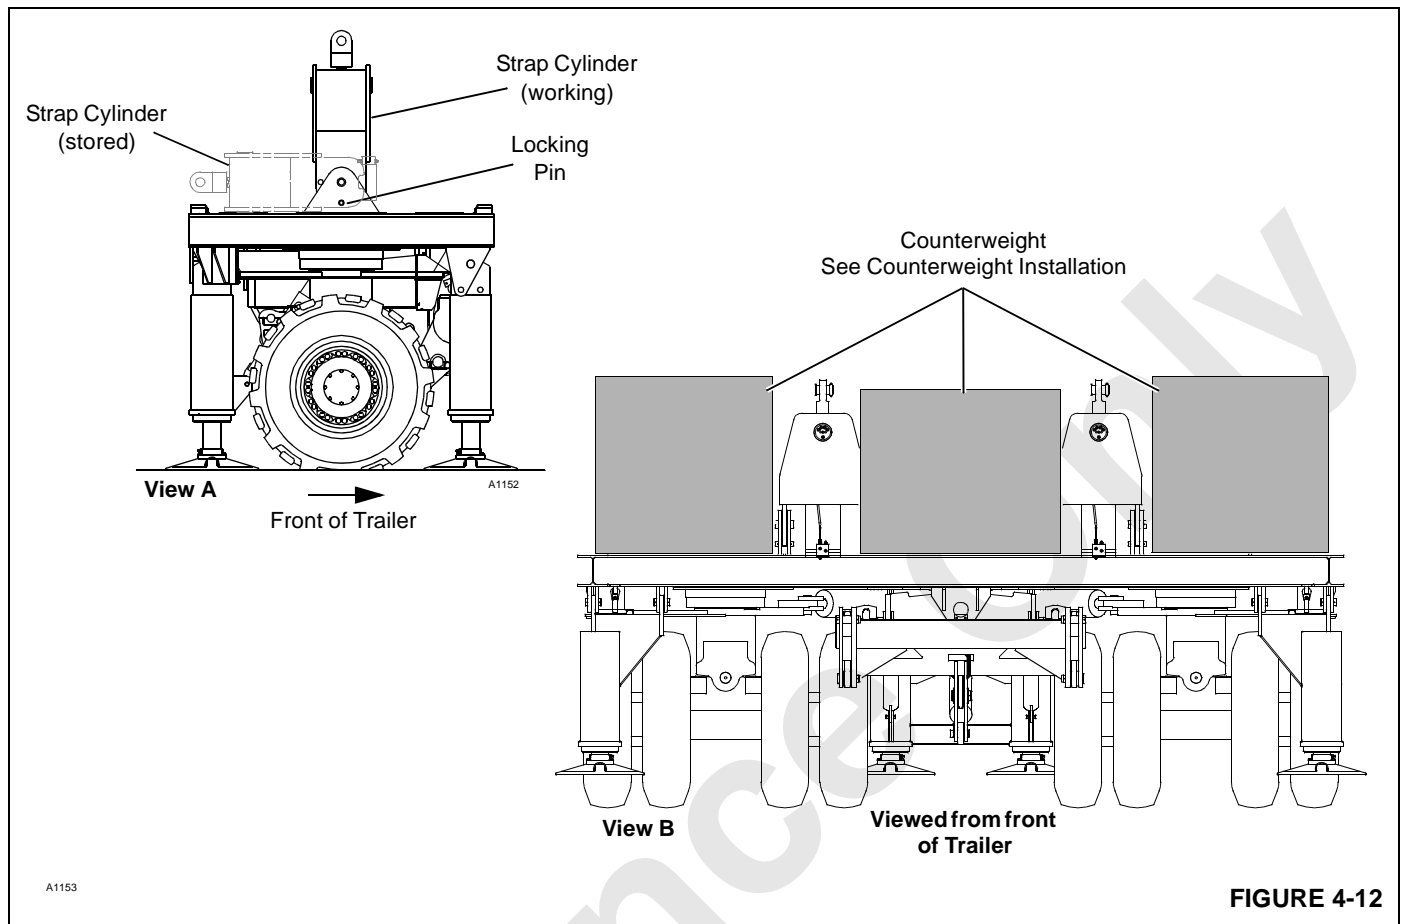

FIGURE 4-12
14. Raise each strap cylinder to working position (Figure 4-12, View A):
3. Lower strap assist cylinders (Figure 4-12, View A):